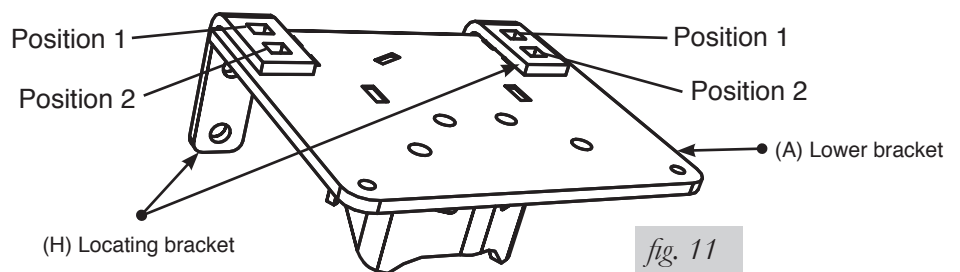

fig. 11
1. Insert a 3/8"-16 x 5.5" hex head bolt (K) and 3/8" flat washer (U) into one of the two bottom holes of the locating bracket (H) (Fig. 11).
- 2a. If you are installing this kit on a single rear wheel (SRW) vehicle, use position 2 to insert the long 3/8"-16 x 10" carriage bolt (P) through the top of the locating bracket and lower bracket (Fig. 11).
- 2b. If you are installing this kit on a dual rear wheel (DRW) vehicle, use position 1 to insert the long 3/8"-16 x 10" carriage bolt (P) through the top of the locating bracket and lower bracket (Fig. 11).
3. Attach the locating bracket (H) to the lower bracket with a 3/8"-16 x 1.25" carriage bolt (O), 3/8" flat washer (U) and 3/8"-16 nyloc nut (T) using the remaining slot in the top of the locating bracket. Leave loose at this time.
5. Using the 3/8"-16 x 5.5" hex head bolts (K) and 3/8" flat washers (U) previously installed on the locating brackets, insert them into the spring clamp bar (E) on the opposite side of the leaf spring assembly (Fig. 11). Cap with 3/8" flat washers (U) and 3/8"-16 nyloc nuts (T). Leave loose at this time.